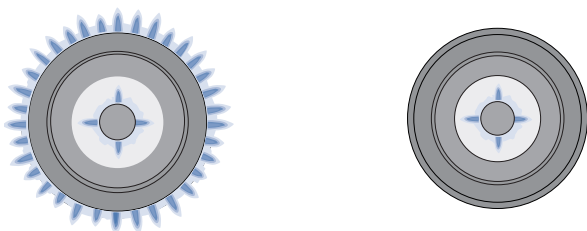
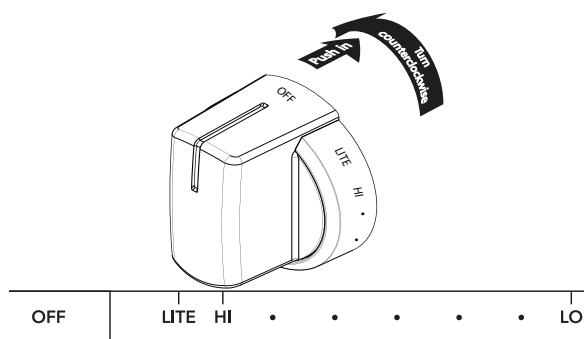

Figure 5: Burner at highest (L) setting and simmer (R)
Figure 6: Setting the double ring burner
2. Visually check that both inner and outer rings for the Double Ring burner are lit (Figure 5). Once lit, turn the control counterclockwise and adjust to the desired flame size.
3. When adjusting for a low or simmer type flame setting, continue to rotate the control knob counterclockwise from HI setting towards LO (Figure 6). When the knob is turned close enough towards the LO setting, the flame for the outer ring portion of the burner will turn off leaving only the inner burner with a flame for simmering (Figure 5). Make any further flame adjustments as needed..